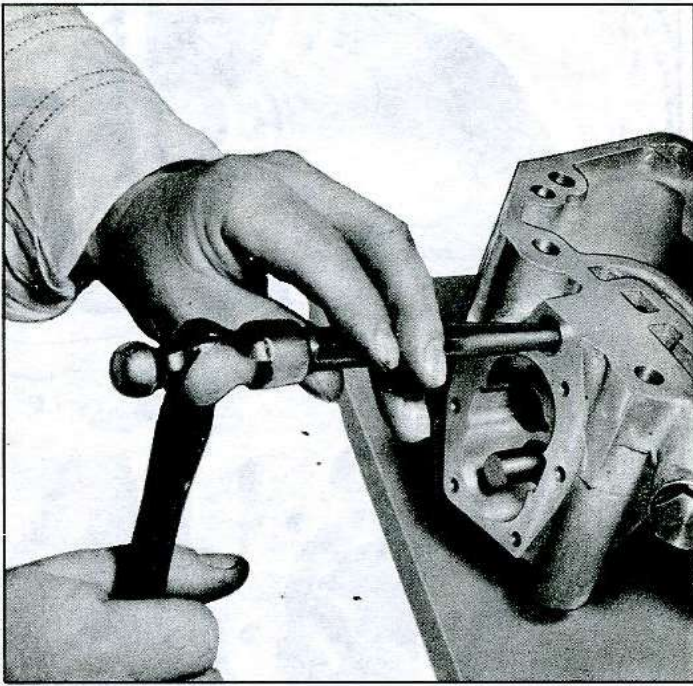

Fig. 117—Installing Oil Gallery Plugs
2. Install oil pump gallery plug flush with the counter-bore using sealing compound (fig. 117).